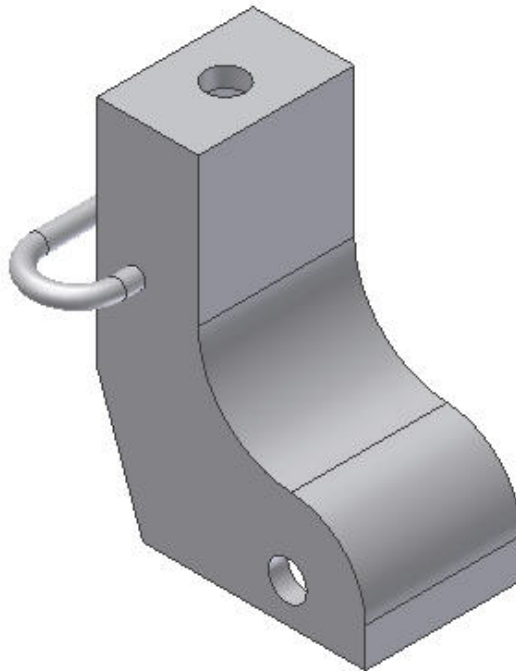

Figure 33
24. Once the Path and Profile of the sweep are selected click **OK**, which should create the finished part shown in Figure 33.